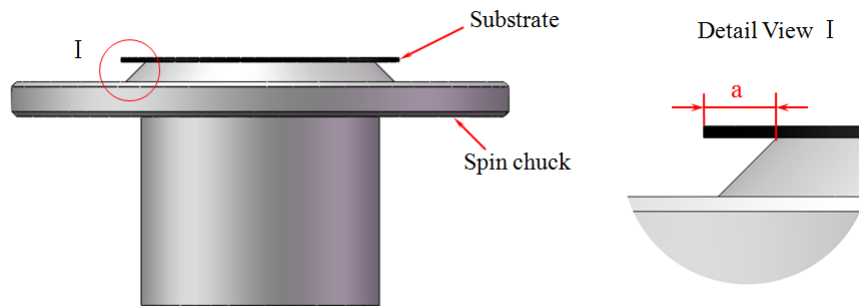

Fig.5 Substrate Placing diagram
2. Spin chuck: place chuck of the right size on the encoder, as shown in fig.5.
- 4、 Substrate placing: place the substrate on the right size spin chuck, as shown in fig.5;
- Substrate diameter must be 2mm to 4mm lager than the spin chuck diameter, as shown in fig.5: $a \geq 1 \sim 2\text{mm}$